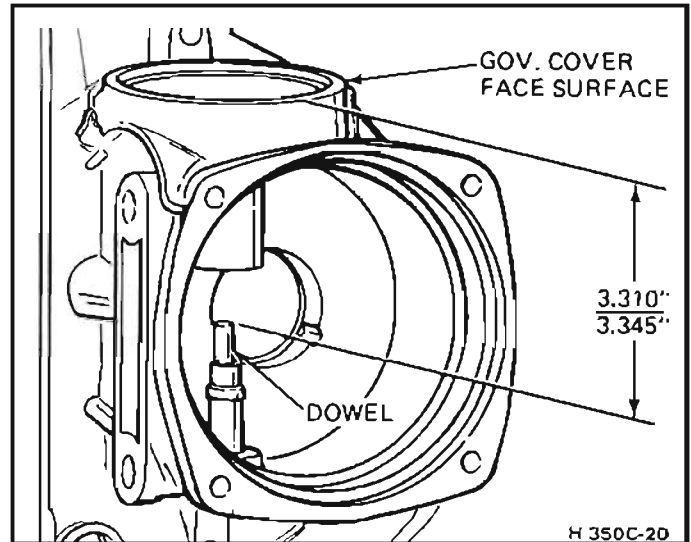

Figure 115 Dowel Pin Dimension
2. Install governor assembly. Check governor dowel pin for proper dimension and looseness. If pin is too high tap down to proper dimension. However, if the pin is installed too low or loose, the case must be replaced. *See Figure 115.* Uniformly apply Loctite Cup Plug Sealant #2 or equivalent to governor cover O.D. and install by gently tapping into place with a plastic or rawhide hammer. If cover is damaged it must be replaced.